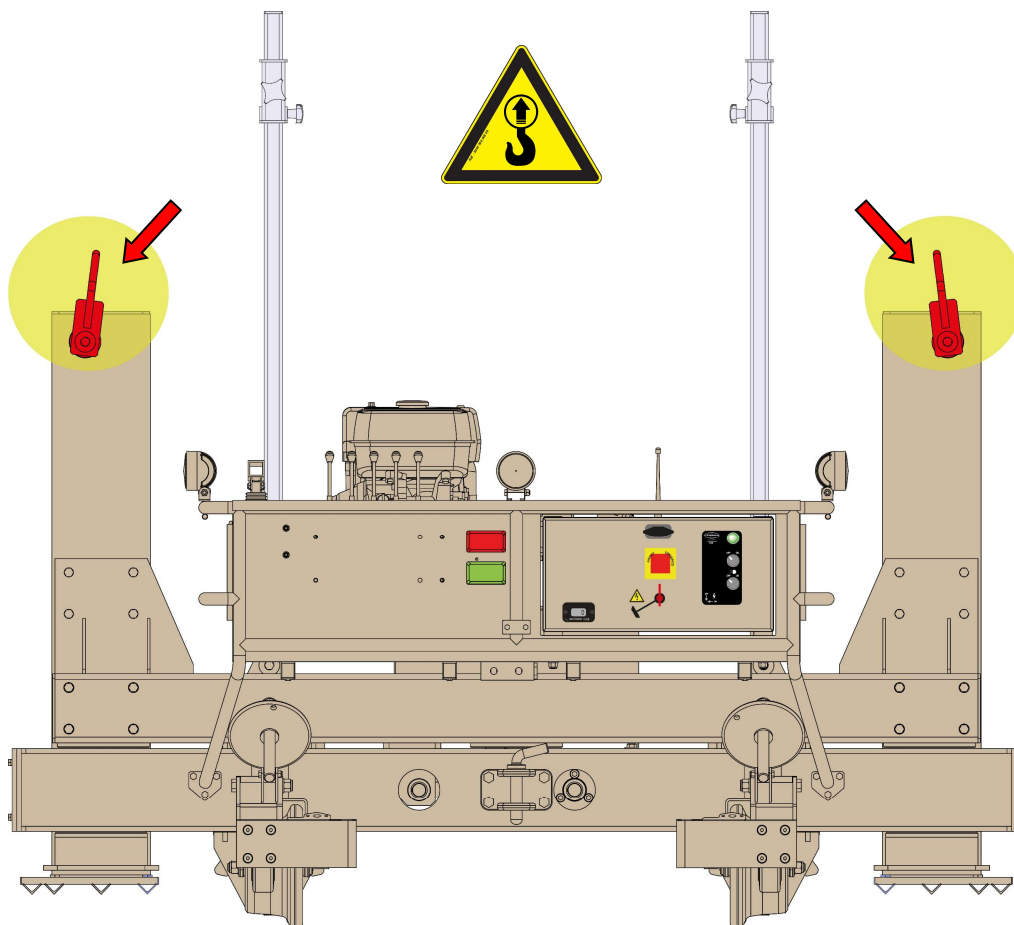

Figure 9
- The machine is equipped with 2 lifting rings (Figure 9).
- The handling of the machine is done thanks to lifting rings located on the lifting feet with use of a sling (Figure 9 page 24).